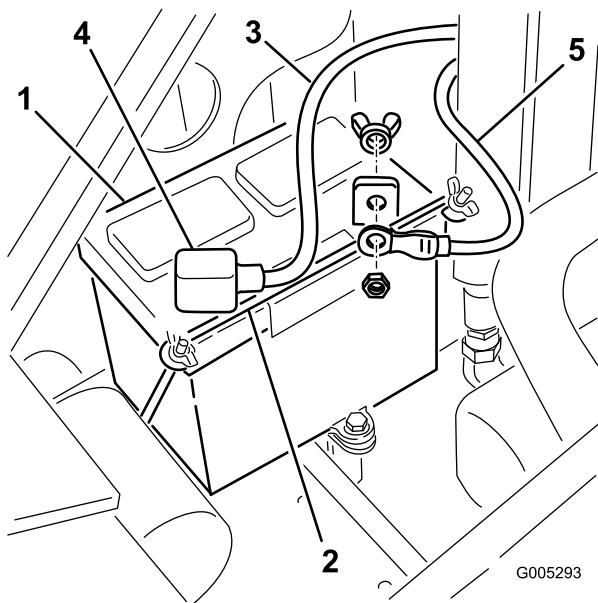

Figure 43
4. Remove the wing nuts and bar securing the battery (Figure 43).
5. Disconnect the negative (black) ground cable from the battery post (Figure 43). Retain the fasteners.
7. Disconnect the positive (red) cable from the battery post (Figure 43). Retain the fasteners.
1. Using the fasteners previously removed, install the positive (red) battery cable to the positive (+) battery terminal (Figure 43).
3. Using the fasteners previously removed, install the negative (black) battery cable to the negative (-) battery terminal (Figure 43).
4. Secure the battery using the bar and wing nuts (Figure 43).